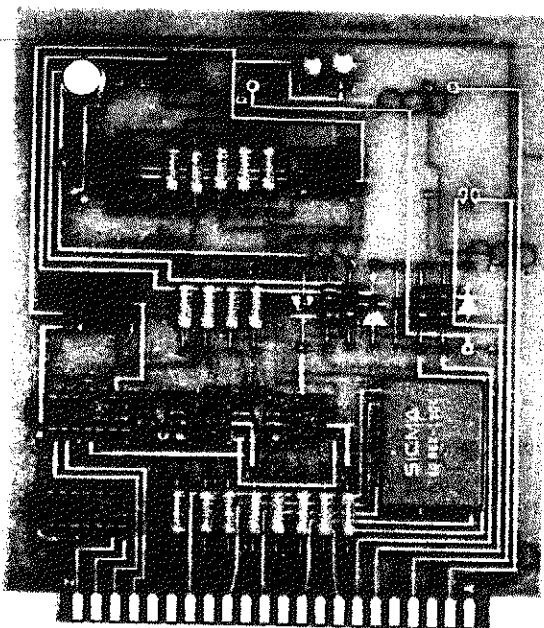

Figure 9. Computation Circuit Board (Single Console)
3. The Computation Board (Figure 9)